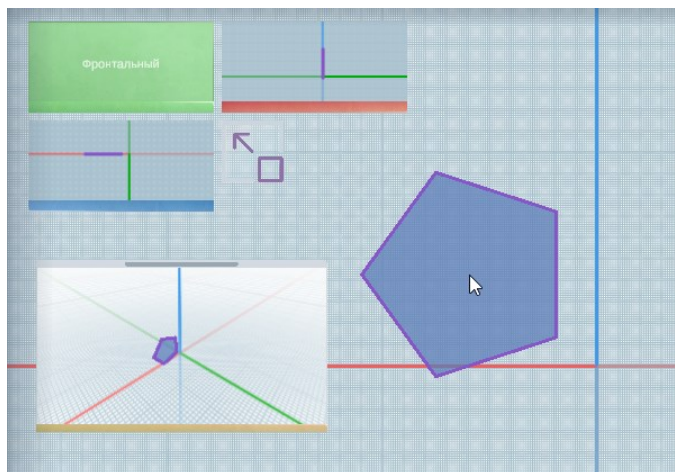

Figure 59 – Creating a 2D shape in the XZ plane by elongation
- in orthogonal form — in the plane whose window is currently active. For example, if the front view was active when creating a shape, then the created 2D shape can be moved in the XZ plane (Figure 59).